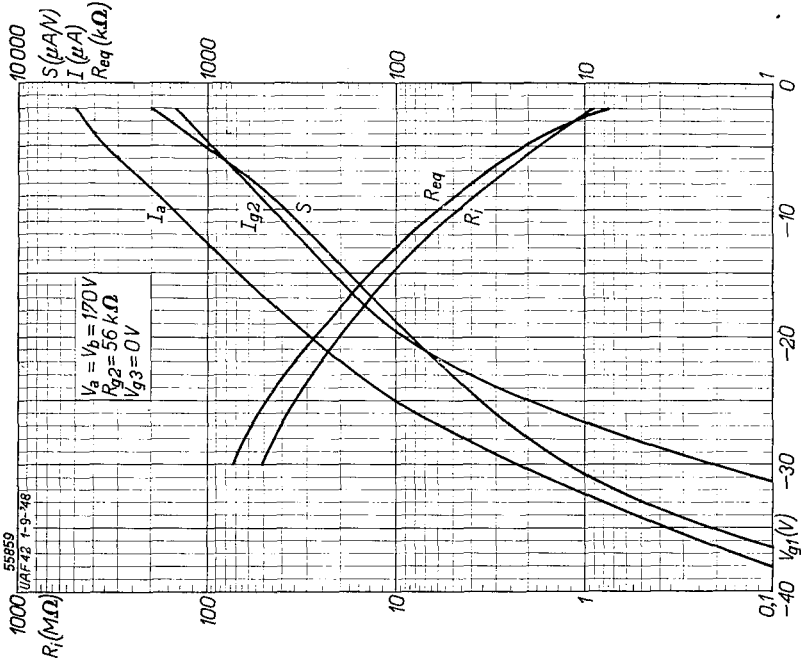
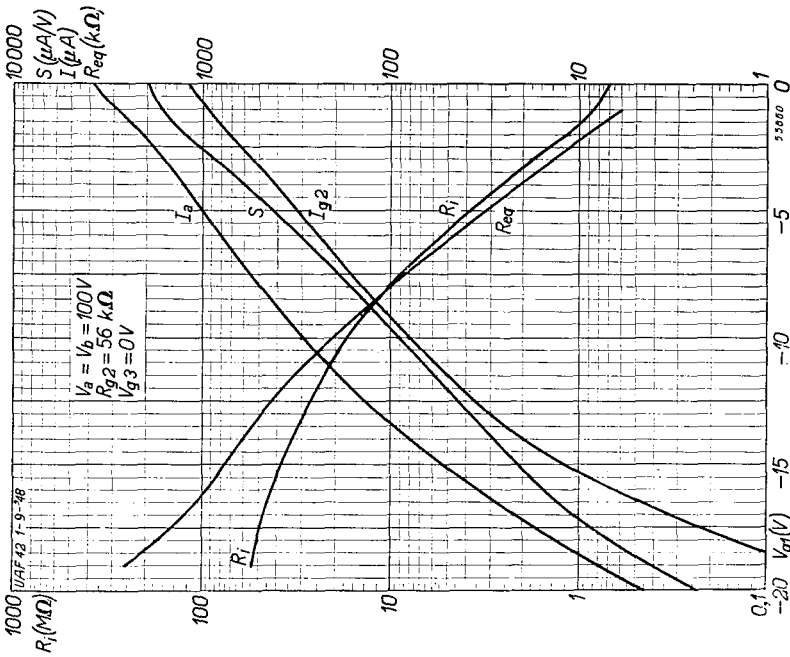

Fig. 11
Fig. 10
Fig. 11 Anode current (I_a), screen grid current (I_{g2}), mutual conductance (S), internal resistance (R_i) and equivalent noise resistance (R_{eq}) of the pentode section of the UAF 42, as functions of the grid bias (V_{g1}); screen grid resistor $R_{g2} = 56 k\Omega$, anode and supply voltage = 100 V (Fig. 10) and 170 V (Fig. 11).
As Figs. 10 and 11, but with the screen grid voltage of the UAF 42 obtained by means of the same potentiometer as that of the frequency changer UCH 41.
As Figs. 10 and 11, but with the screen grid feeds of the UAF 42 and UCH 42 taken from a common potentiometer.